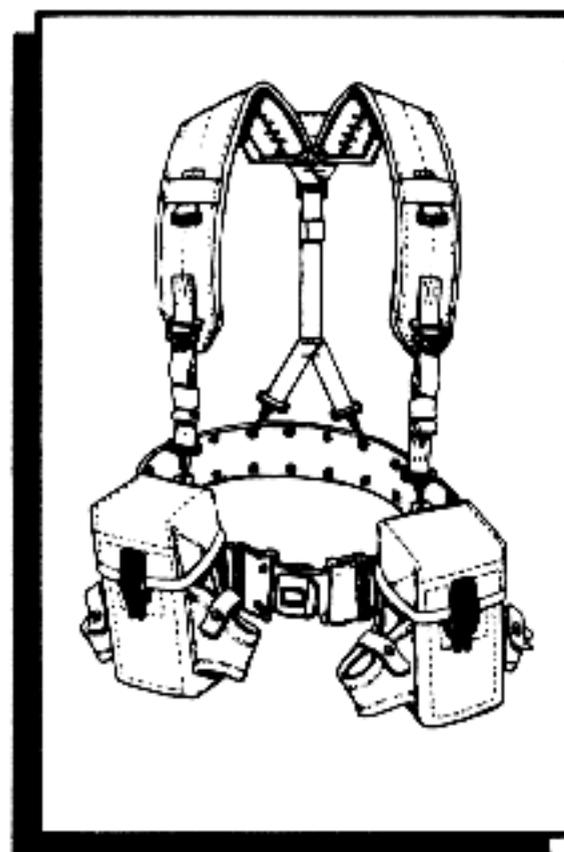

Figure 4-15. Attaching suspenders to belt and ammunition cases.
- Attach the front suspender snap hooks to the eyelets on the back of the ammunition cases. Close the snap hooks (figure 4-15).